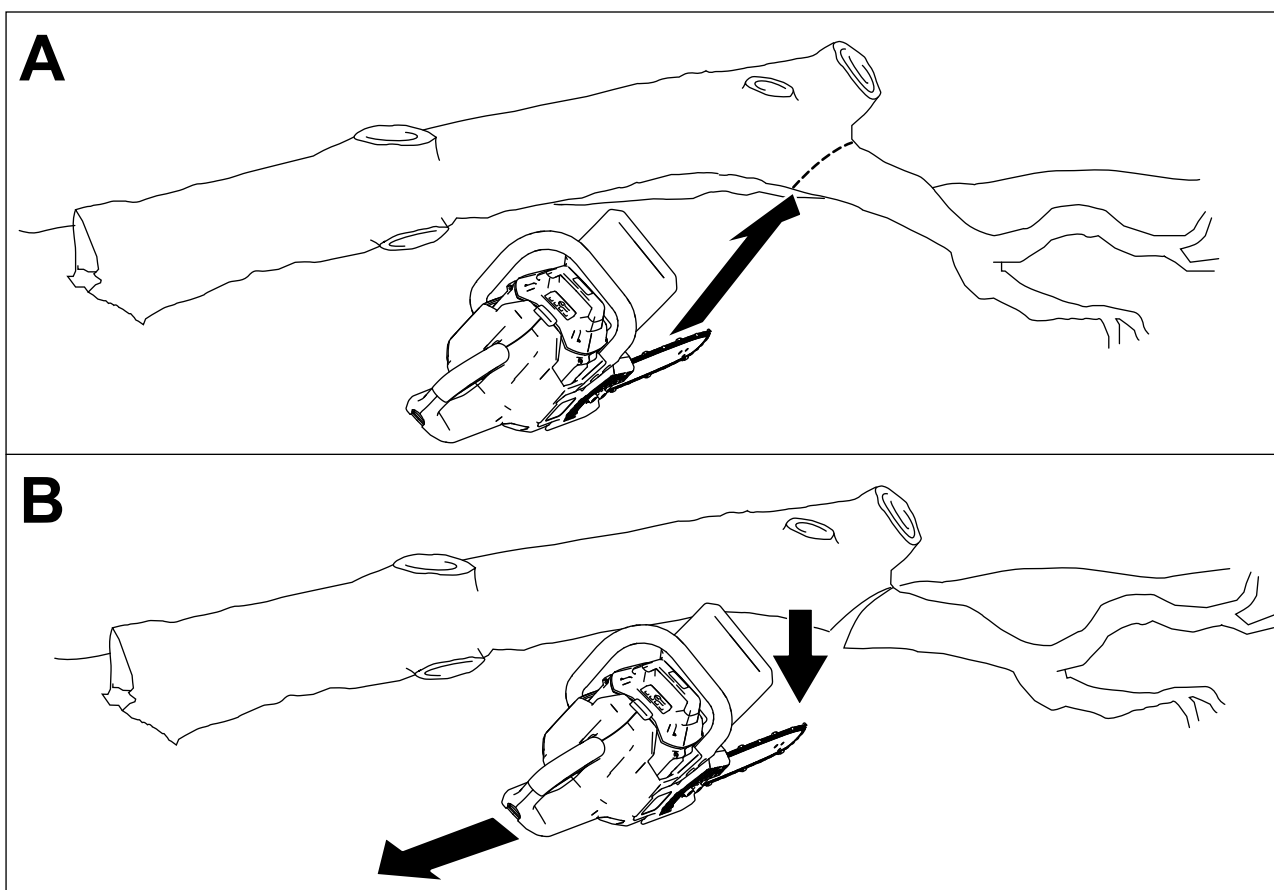

Figure 20
3. Cut the larger limbs that support the weight of the tree from the bottom upward so that the limbs do not pinch the saw blade (Figure 20).